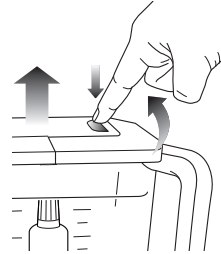

Fig. 6
- 7 When you have reached your desired consistency, stop the appliance by pressing the power button (⏻) and wait for the attachment to stop turning. Then **⚠** remove the lid by pressing the release button, lifting the handle up and pulling straight up. (Fig. 6)